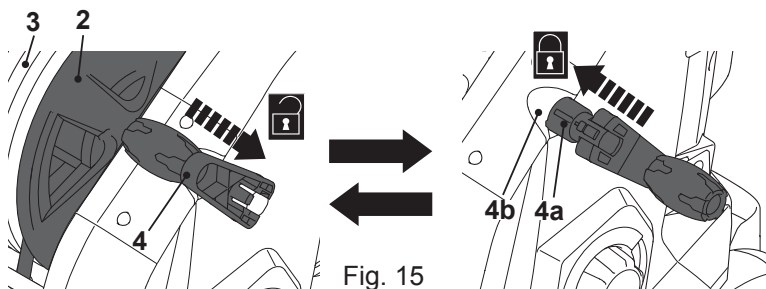

Fig. 15
1. Pull out the winding handle (4) from the housing and unfold it to unlock the hose reel (2) and itself (Fig. 15).
2. Pull out the pressure hose (3) from the hose reel (2) for operation.
3. Turn the winding handle (4) clockwise to wind up the pressure hose (3) for storage. Release the pressure in the hose before winding up the hose: turn product off using the control dial and press gun trigger until the pressure is released.